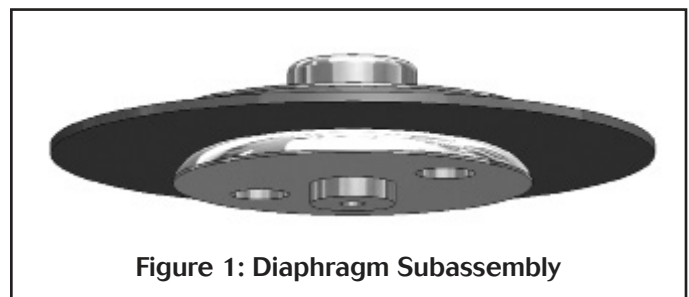

Figure 1: Diaphragm Subassembly
1. Remove adjusting screw assembly (11) completely out of the spring housing (10).
2. If valve is removed from the line, clamp the valve in a vise using the body (1).
3. Remove spring housing (10).
4. Remove range spring (12) and spring seat (10).
5. Remove diaphragm assembly parts (2), (3), and (4). See Figure 1.
7. Remove seat holder (7), seat (8) and plug (6) from body (1).
8. Place new plug (6) into body chamber. Make sure the bottom stop rod (bigger end) of the plug (6) goes down inside the return spring (5).
9. Place the new seat (8) into the seat holder (7) and carefully install into body cavity (1) taking care not to bend the narrow rod on top of the plug (6) when it passes through the seat holder (8).
10. Refer to Figure 1. Unscrew the lower diaphragm plate (4) from the upper diaphragm plate (2). Discard the old diaphragm (3) and reassemble with new one. Use LowFlow replacement diaphragm only. Place diaphragm assembly parts (2), (3), and (4) back into body cavity (1), making sure the small counterbore on the bottom of lower diaphragm plate is properly engaged with the narrow tip of the plug (6) which protrudes through the seat holder (7).